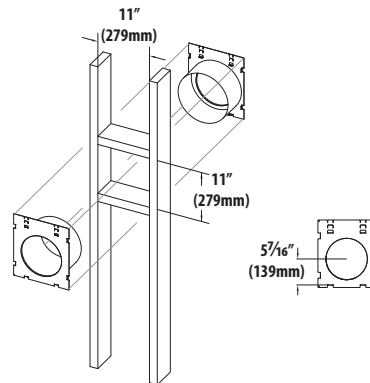

Figure 3.6, Natural Draft Vent Termination Framing Dimensions
- Rigid pipe dimensions in Figure 3.6 reflect Simpson Duravent 5" x 8" coaxial pipe. Other manufacturers product dimensions may vary.
- Flexible pipe framing dimensions in Figure 3.6 reflect Kozy Heat #800 Series Flexible Vent System.